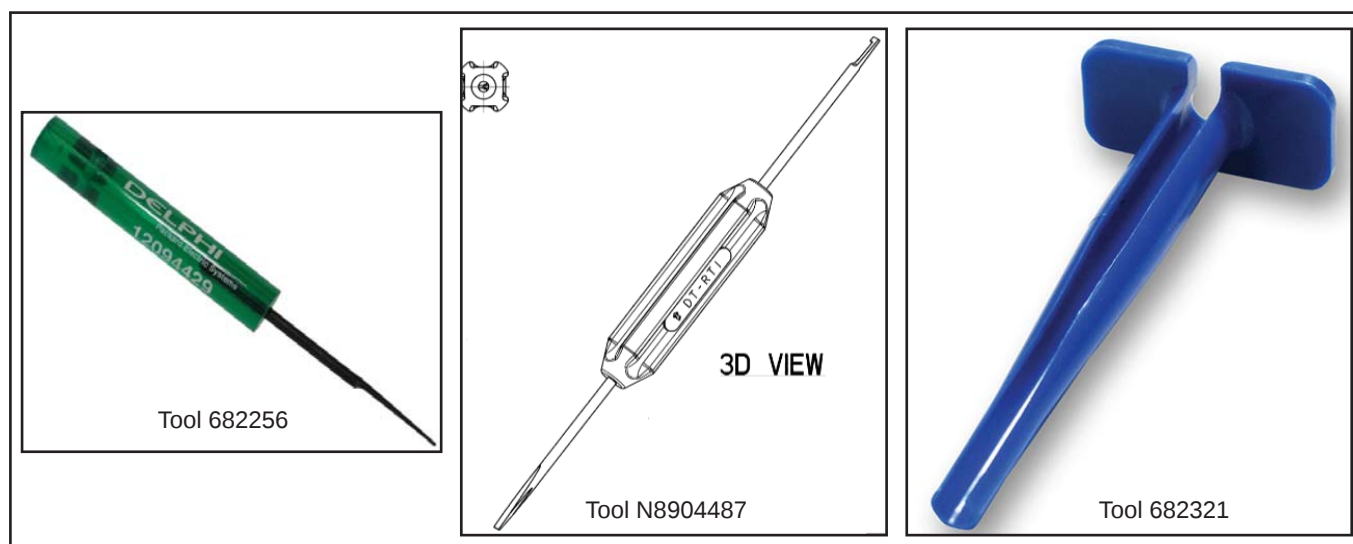

Figure 10 - Typical Connector Pin Extractor Tools
- 1.25. Remove the pins in positions F & G of the +EB-X70A connector using the 682321 extractor tool or equivalent. See Figures 10 & 12.